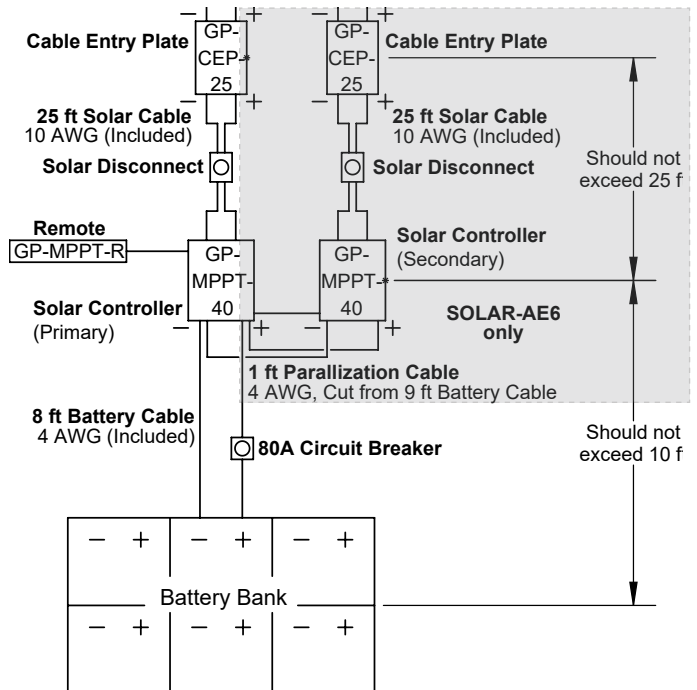

FIGURE 3-A
1. Plan where the GP-MPPT-40 charge controller(s) will mount, see Figure 3-A for more detail including maximum distances.